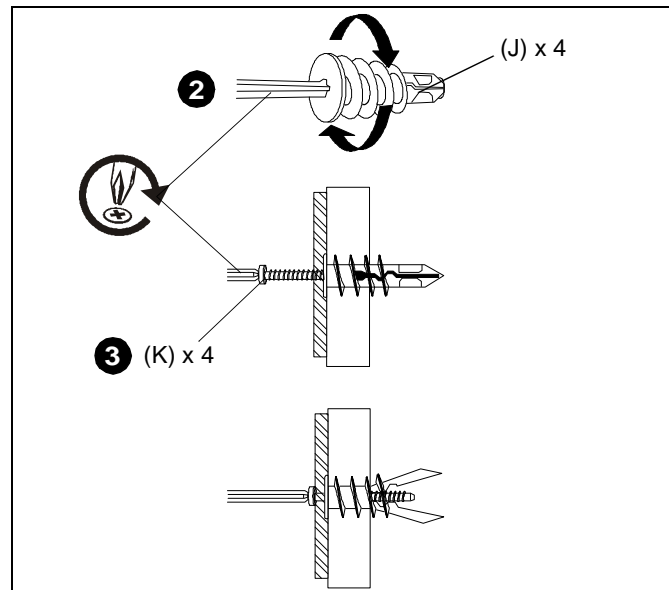
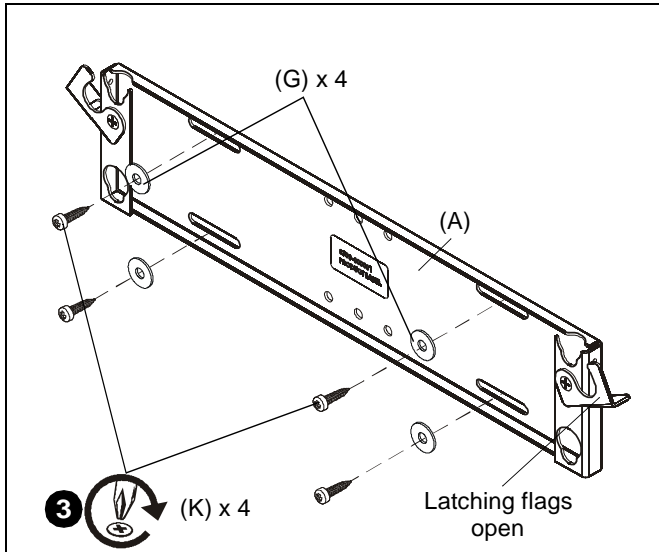

Figure 3
Figure 4
2. Install drywall anchors (J) into wall at marked locations using a Phillips screwdriver. (See Figure 3)
3. Secure speaker bracket (A) to anchors in wall using four #10 x 1-1/2" Phillips head screws (K) and #10 washers (G). (See Figure 3) and (See Figure 4)